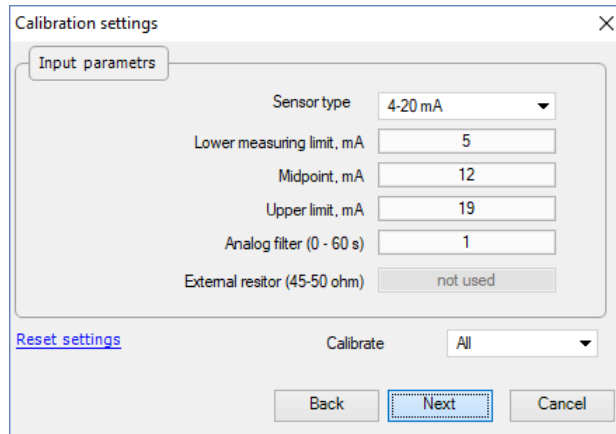

Fig. 6.2 Parameter configuration
8. Select the type of input signal and other calibration parameters (Fig. 6.2).